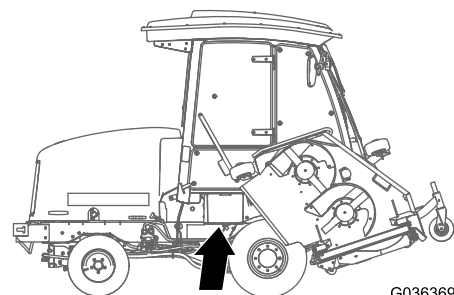

Figure 64
1. Open the battery cover on the side of the shroud (Figure 64).
Note: Press down on the flat surface above the battery cover to ease the removal of the cover (Figure 64).